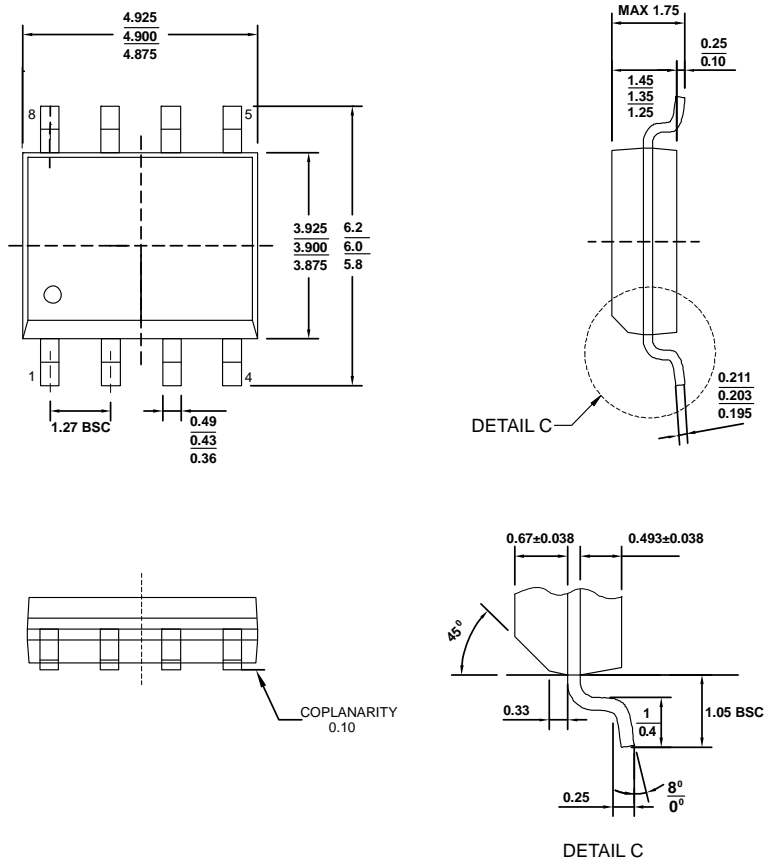
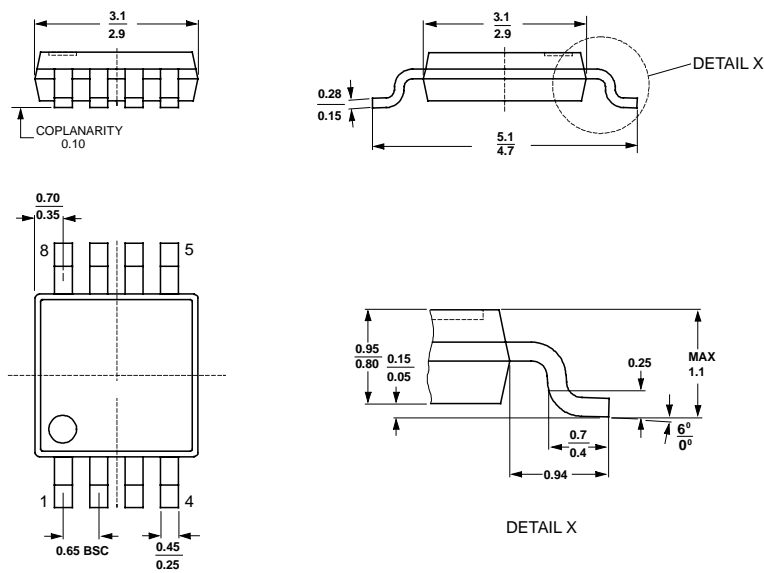
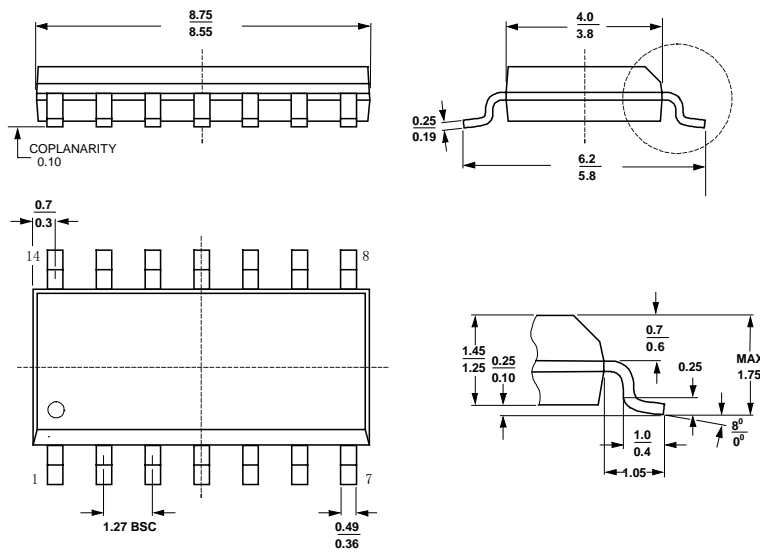
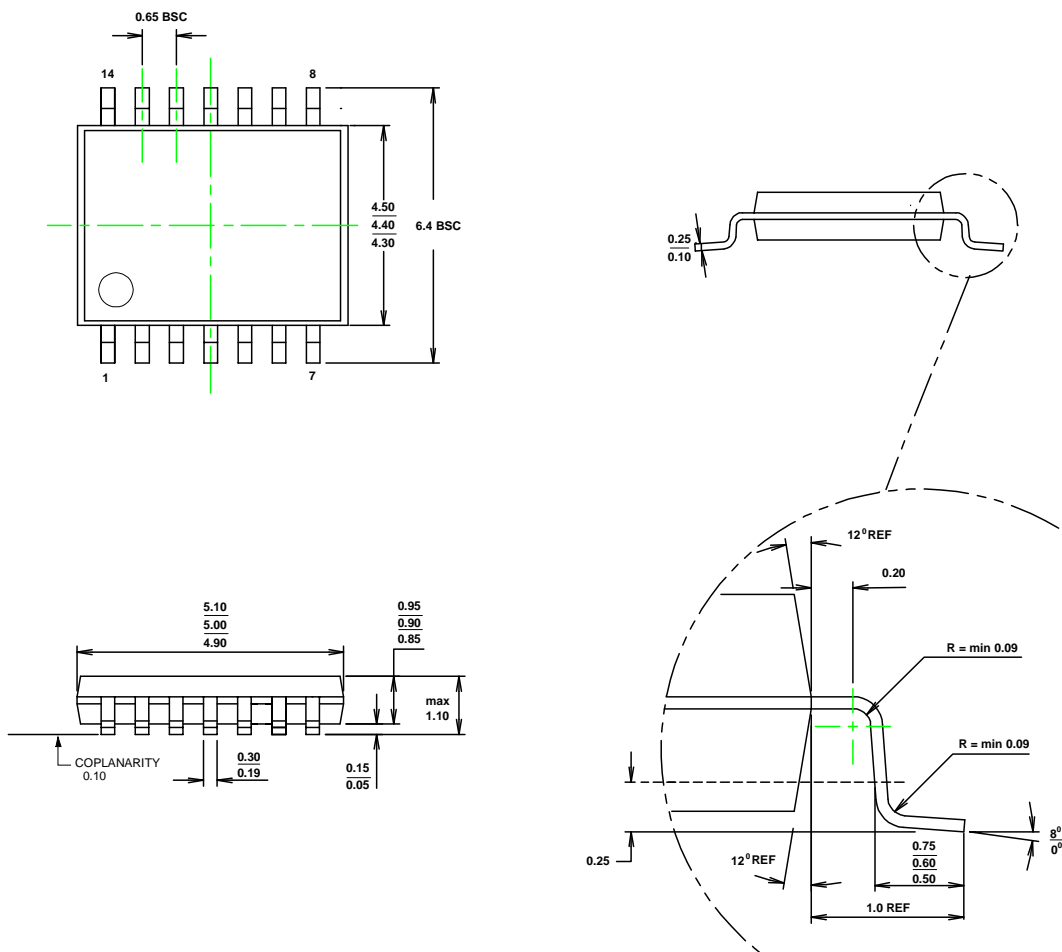

Figure 46. 8-Lead SOIC Package Dimensions shown in millimeters
Figure 47. 8-Lead MSOP Package Dimensions shown in millimeters
Figure 48. 14-Lead SOIC Package Dimensions shown in millimeters
Figure 49. 14-Lead TSSOP Package Dimensions shown in millimeters
- Place the external components as close to the device as possible. As illustrated in Figure 46, Figure 47, Figure 48 and Figure 49, keeping R_F , R_G and C_F close to the inverting input minimizes parasitic capacitance.